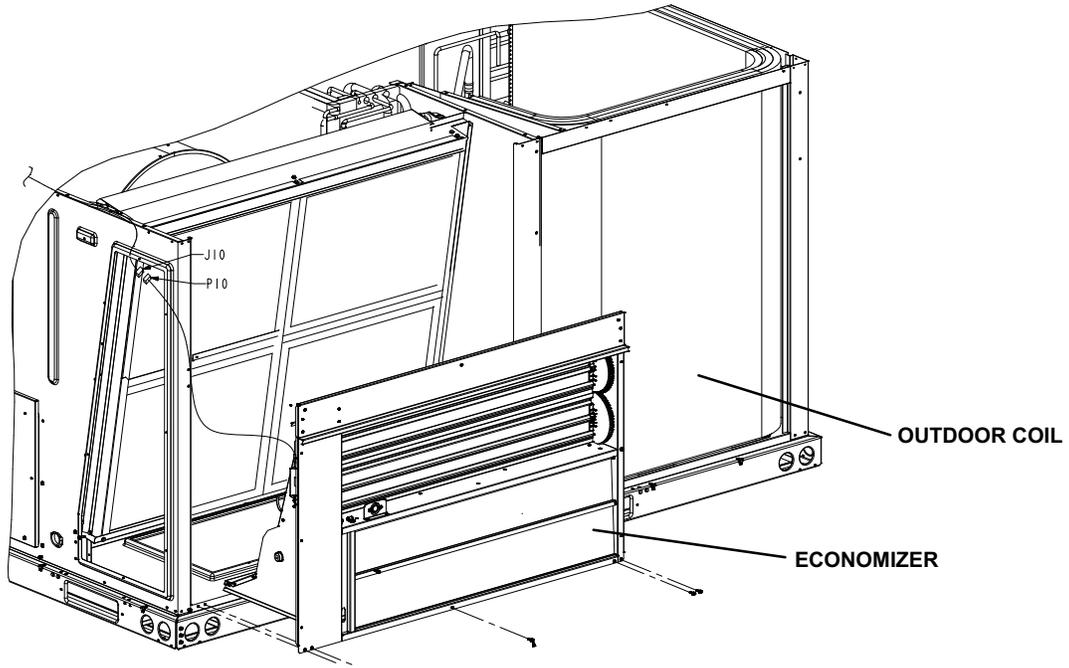

FIGURE 19
Economizers use outdoor air for free cooling when temperature and/or humidity is suitable. See figure 19.
- 4- At economizer/filter compartment, attach economizer plug(P10) to prewired harness jack (J10). See Figure 19.